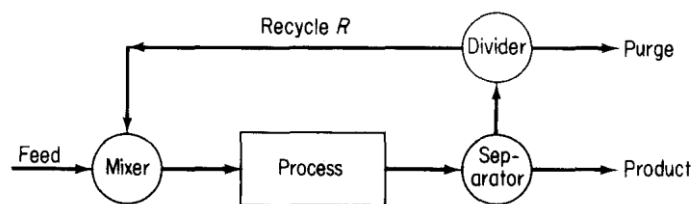

Figure 12.5 A process with a recycle stream with purge.
- b. A purge stream—a stream bled off from the process to remove an accumulation of inert or unwanted material that might otherwise build up in the recycle stream (Figure 12.5).